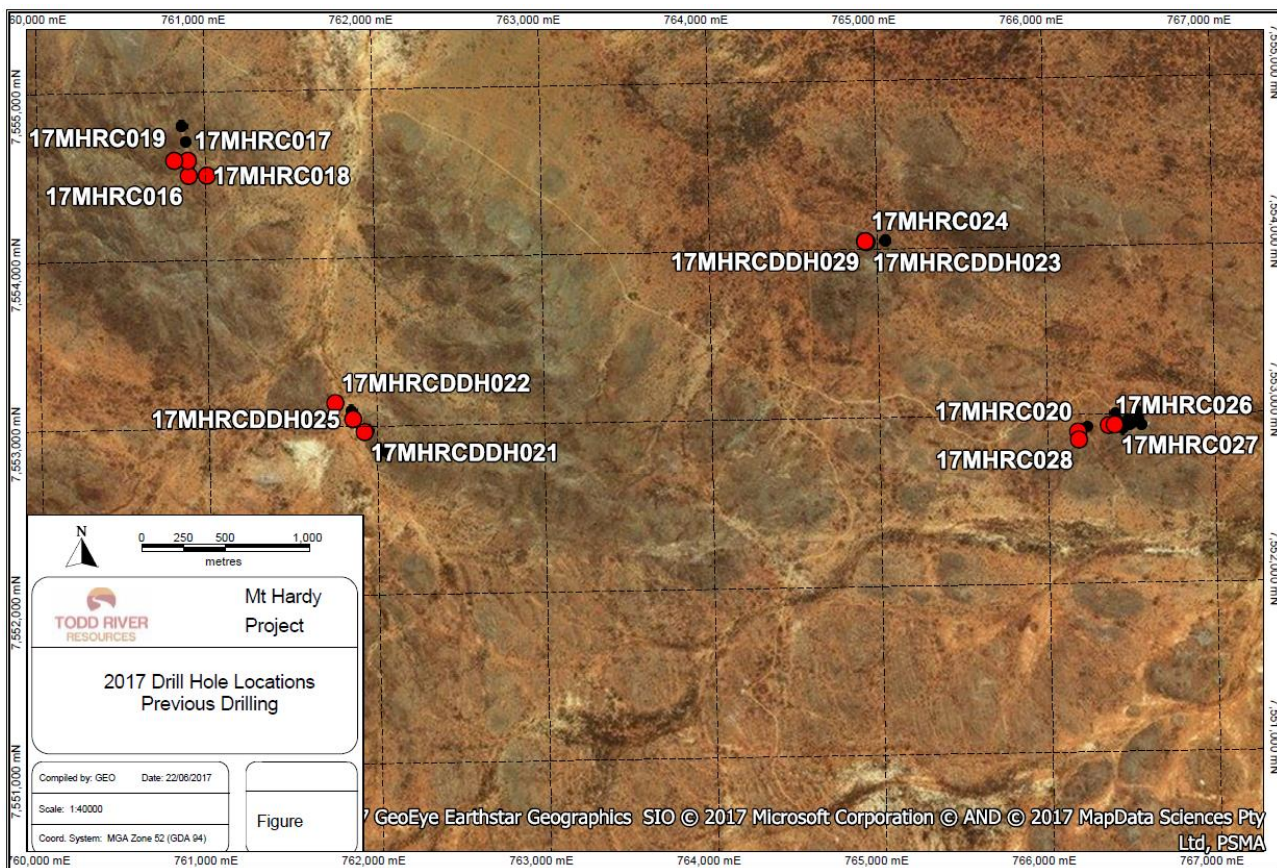

Figure 2. Location of drilling on the Mount Hardy Project within EL 27892, with 2017 holes highlighted.
Four holes were completed for 490m at the Browns Prospect (Figures 2, 3 and 4), as reported in the ASX Release – 20 April 2017. A total of 230 samples were submitted to ALS Laboratory for ICP and Fire Assay analysis.
Four RC holes have been drilled at the Mount Hardy Prospect. All holes targeted the down-dip and down-plunge position of the mineralisation seen at surface and outlined by an Induced Polarisation (IP) geophysical survey conducted by the previous owner, TNG Ltd, in 2013 (see TNG ASX Releases 1 March 2013 and 12 June 2013). Drill-hole locations are shown on Figures 2, 5 and 6.